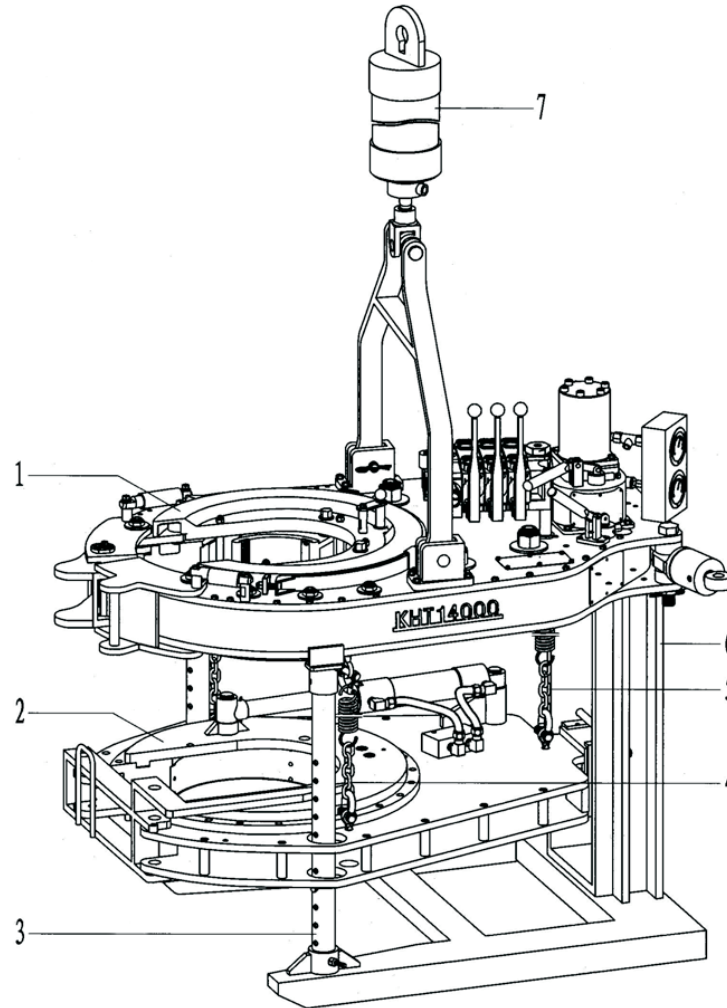

Fig.1
7.1 General assembly (Fig.1,Table1)